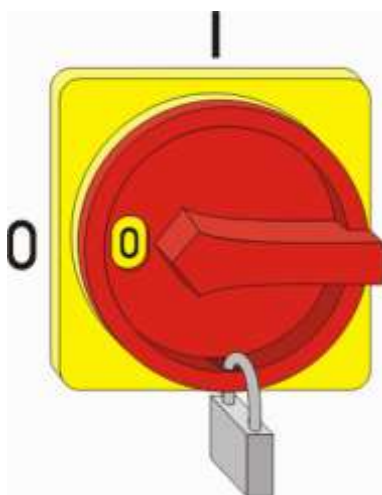

Fig.66: Secure main switch
2. Secure against restarting by using a padlock (Fig. 66).